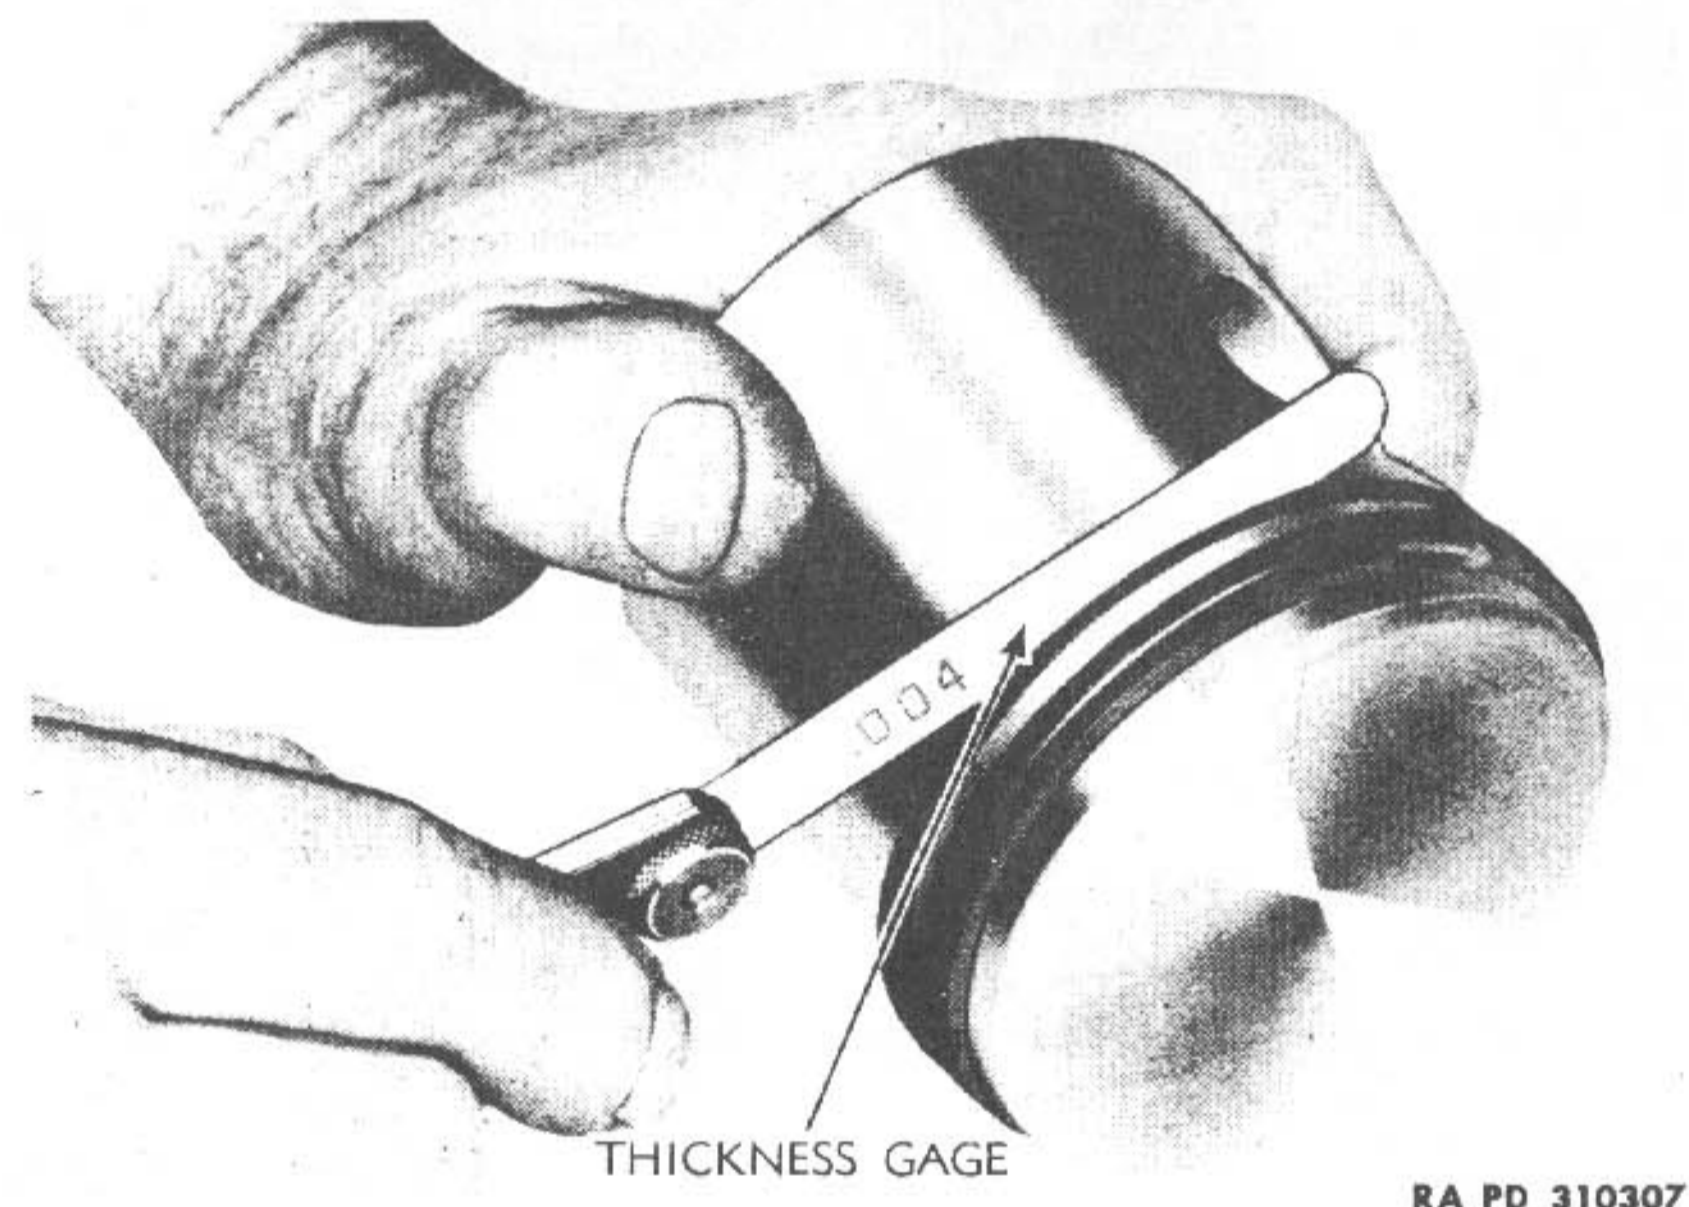

Figure 14—Measuring Ring Clearance in Piston Groove
d. **Cleaning and Inspection** (figs. 14 and 15). Remove carbon deposits from top of piston, exercising care not to cut or nick the aluminum. Clean the ring grooves free of carbon and gum deposits. Any excess of carbon or sludge accumulation on inside of piston can be removed with dry-cleaning solvent.
(1) Inspect piston for cracks, scored, cut, or damaged surface. Place standard ring in ring grooves and with a feeler gage, measure clearance. Maximum permissible side clearance is 0.008 inch (fig. 14). If piston ring grooves are worn to give more than 0.008 inch side clearance, replace piston.